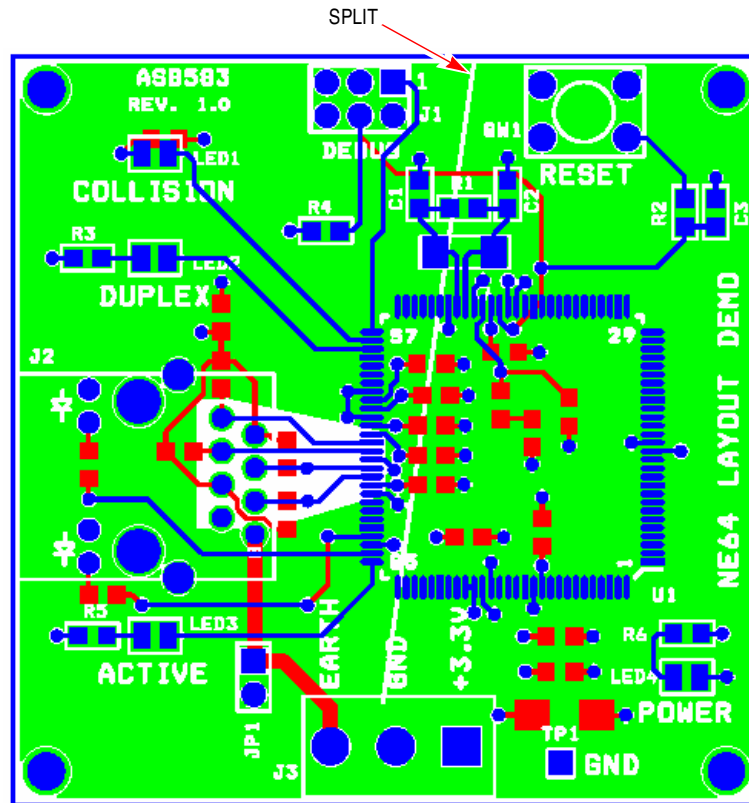
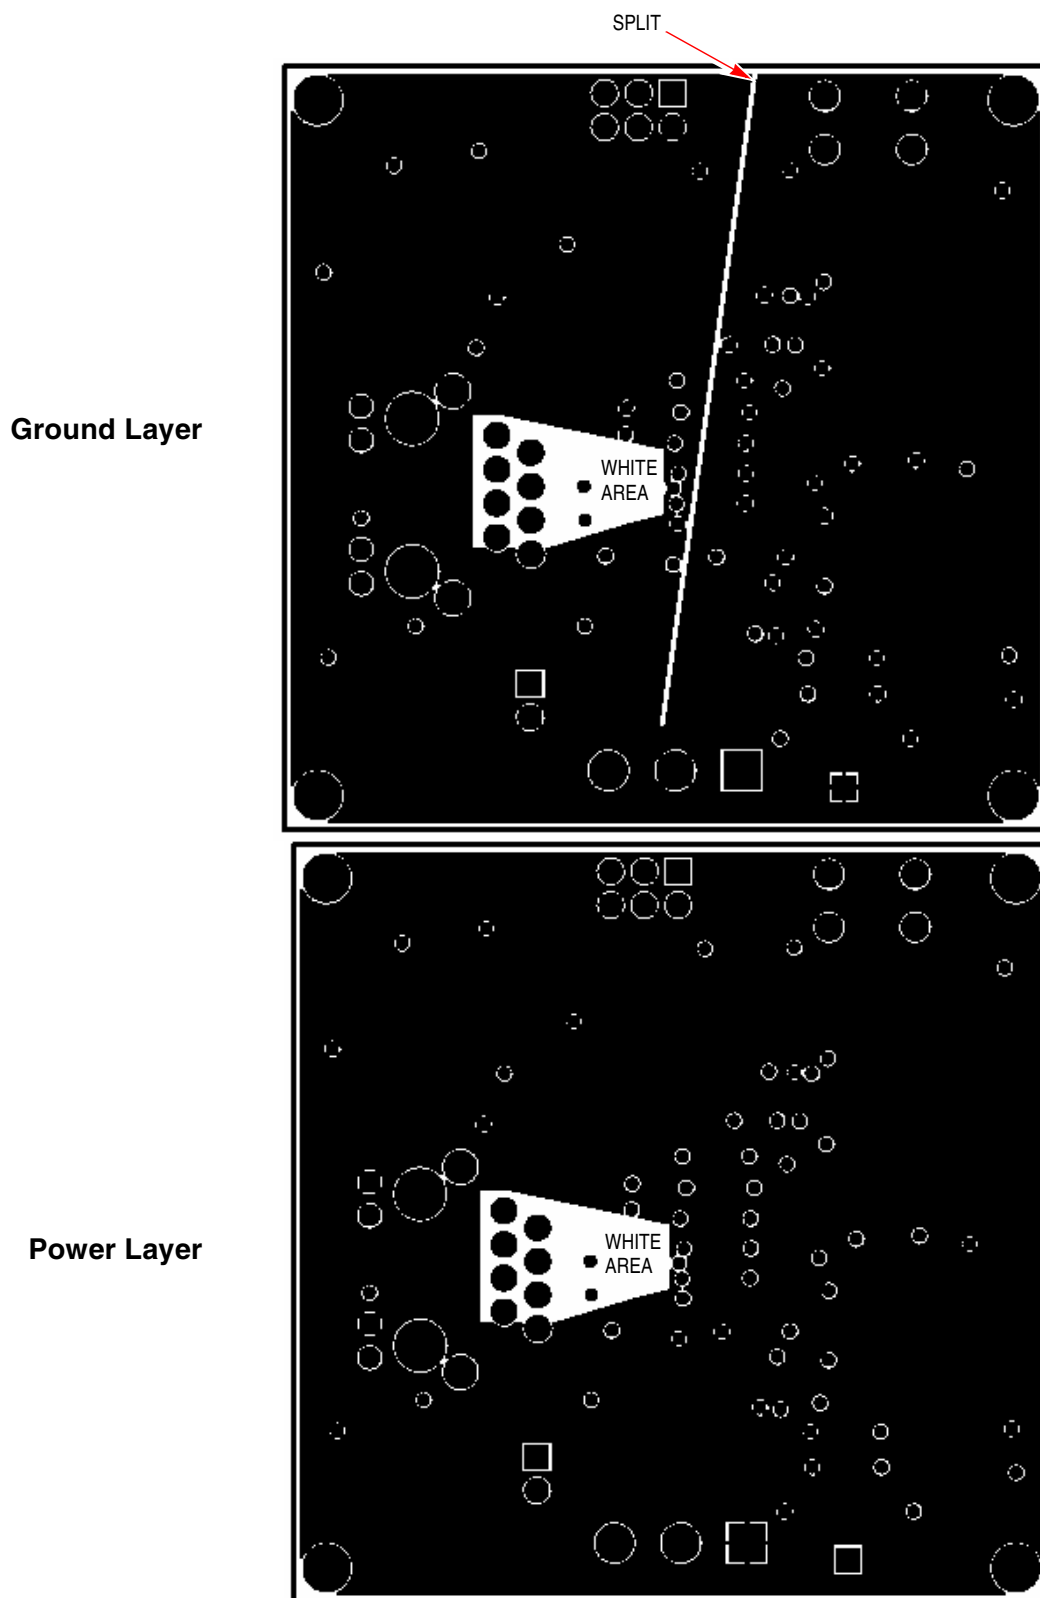

Figure 9. Minimum 112-pin Package Artwork All Layers
Figure 10. Minimum 112-Pin Package Artwork
- Avoid routing Tx and Rx traces over or under a plane. Areas under the Tx and Rx traces should be open, See Figures 9, 10, 11, 17 and 18.
Ground planes and how grounds are tied together affect noise immunity. To maximize noise immunity, it is important to get a good ground plane under the MCU. It is also a good practice to have the ground plane under the crystal components. Note, on the layout, Figure 10, there is a white area to the left of the MCU. That area is directly under the Ethernet transmit and receive traces from the MCU to the high-speed LAN magnetics isolation module. That area under those traces must be devoid of any ground plane to reduce capacitance.
As shown in Figure 9 and Figure 10, there is a split in the ground plane. It starts just to the right of the top center of the PC board and continues down to just above the center of connector J3. The center pin of J3 is the system ground connection. This split in the ground plane forces the system's ground currents to flow to a common point, the ground connection for the PC board. This technique helps increase noise immunity in the system.